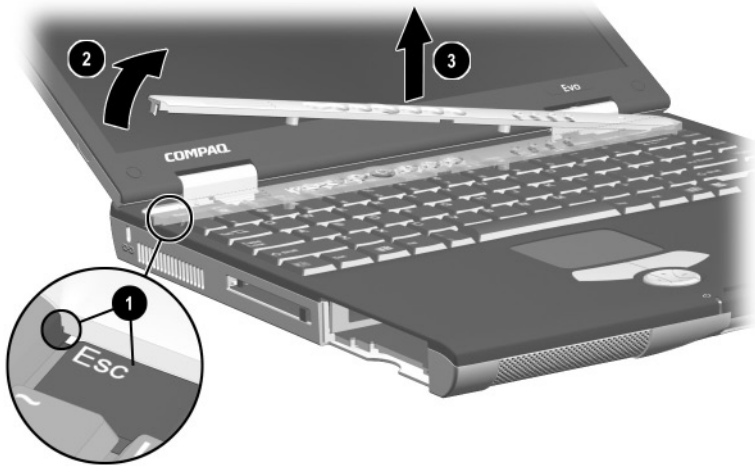

Figure 5-10. Removing the Switch Cover
6. Press down and hold the **Esc** key ❶ (Figure 5-10).
7. Use a small straight edge tool (screwdriver or tweezers) to disengage the left side of the switch cover from the top cover ❷.
8. Remove the switch cover ❸.